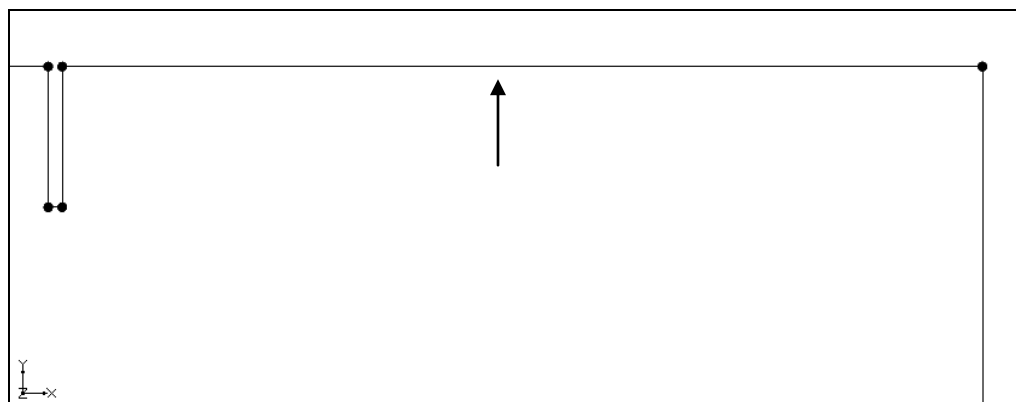

Figure 7 Create the final arc
- Create the arc indicated by the arrow in Figure 7. Notice there is no arc across the top of the sheet pile.